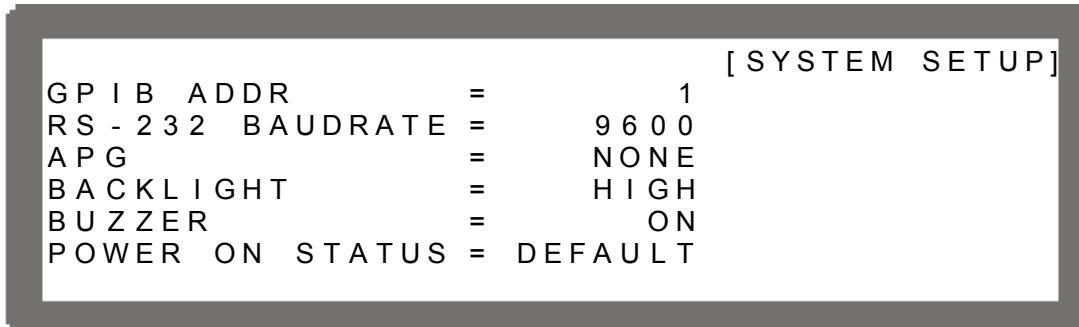

Figure 3-5
1. In the CONFIG setup page, press “**1**” to display the SYSTEM SETUP screen (see Figure 3-5).